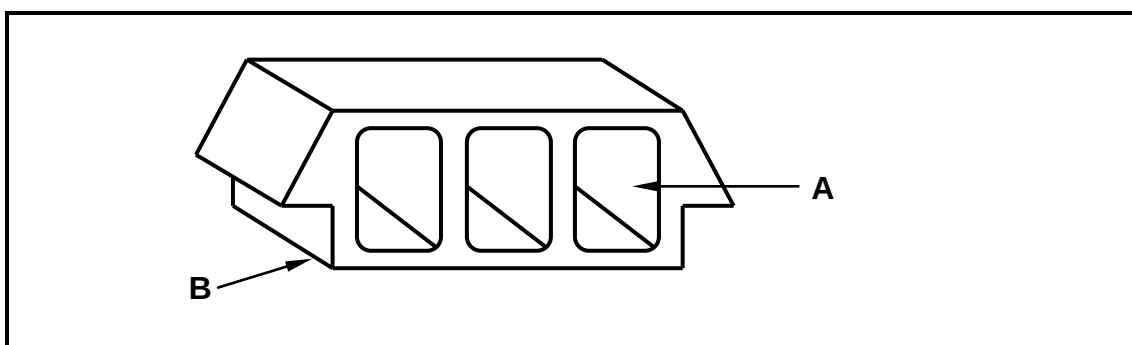

FIGURE 6.5
6.5 FIGURE 6.5 below shows material for a floor component. Study the diagram and answer the questions that follow.
6.5.1 Identify the part in FIGURE 6.5.